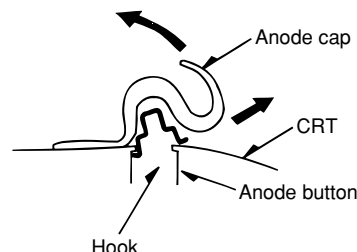

Figure 2-4
- (6) Turn over the anode cap on the side where the hook was released and pull out the cap in the direction opposite to that on which the cap was pushed. (See Figure 2-4)